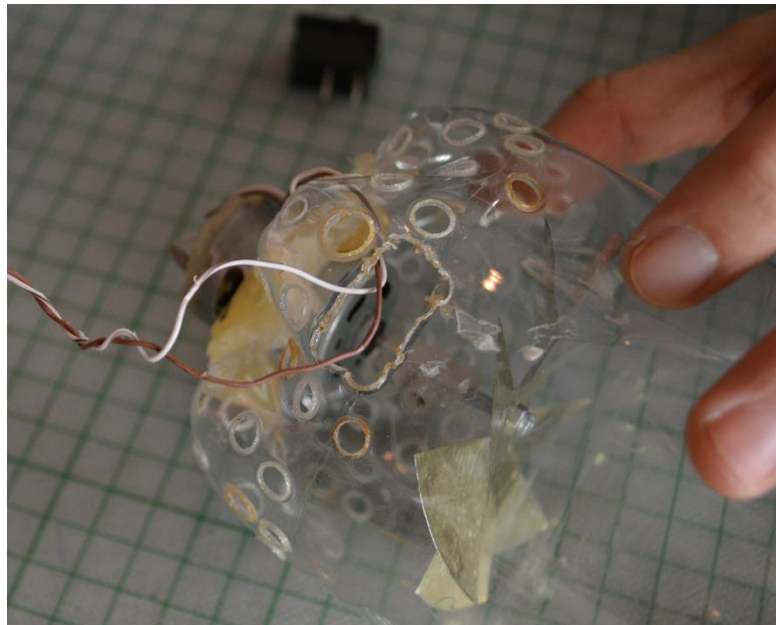

Figure 31
- Split the two wires apart as shown in Fig. 31